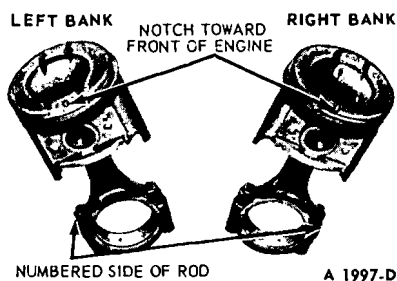

FIG. 58—Correct Piston and Rod Positions
1. Apply a light coat of engine oil to all parts. Assemble the piston to the connecting rod with the numbered side of the connecting rod and the indentation notch in the piston positioned as shown in Fig. 58.